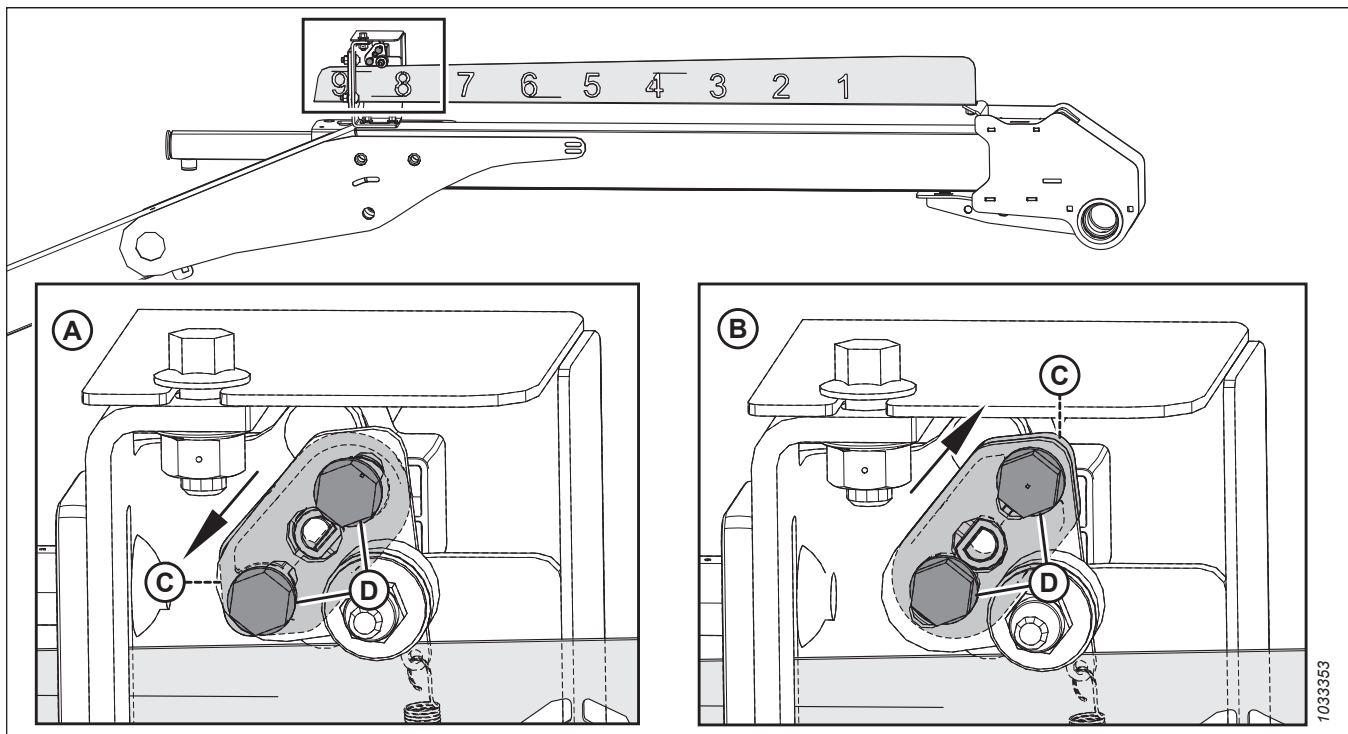

Figure 3.249: Sensor Arm Configurations
3. Check the orientation of sensor arm (C) and hardware (D). Ensure that the sensor arm is configured properly for your machine; refer to Figure 3.249, page 176.